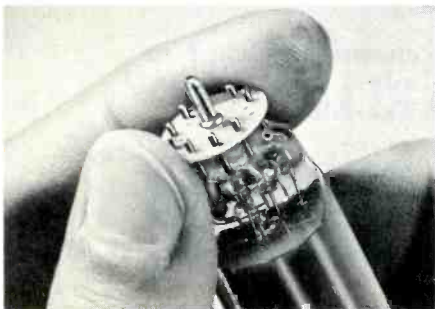

Fig. 1. Tube Socket Locator. (Courtesy CBS-Hytron.)
The procedure for using the socket locator is as follows: (1) if necessary, straighten the tube pins with a pin straightener; (2) slip the locator over the ends of the tube pins no more than half way, as shown in Fig. 1; (3) move the tube about in the region of the socket until the center